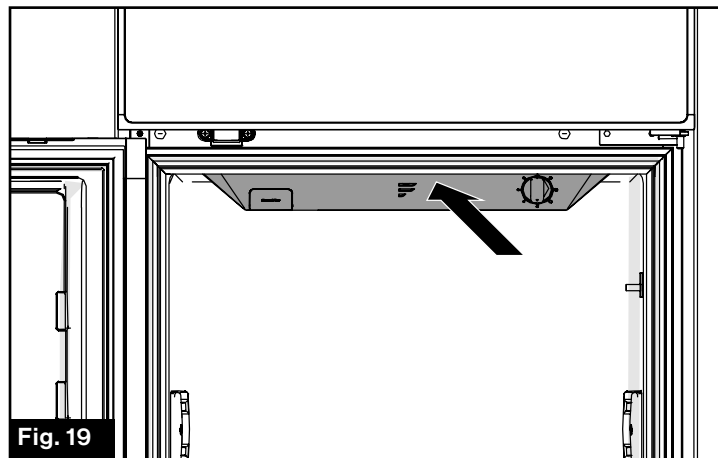

Fig. 19
2. Press the cover backwards toward the rear of the unit and open it. (Fig. 19)